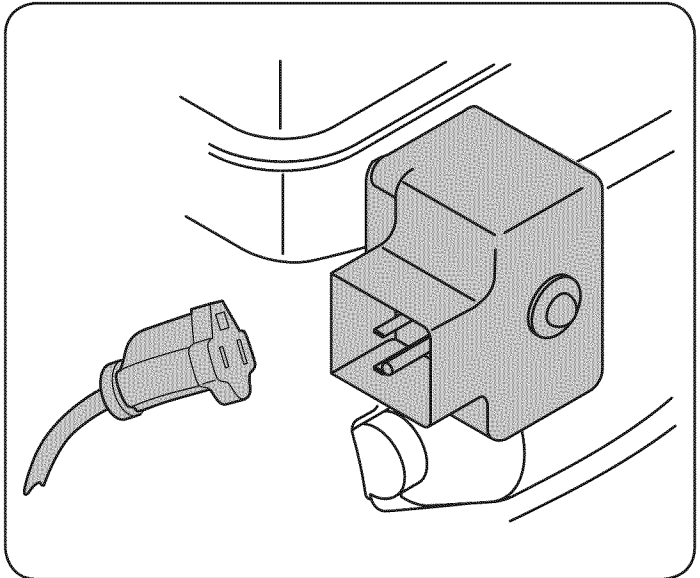

Figure 12
3. Plug an extension cord into the outlet located on the engine's surface. Plug the other end of extension cord into a three-prong 120-volt, grounded, AC outlet in a well-ventilated area. See Figure 12.